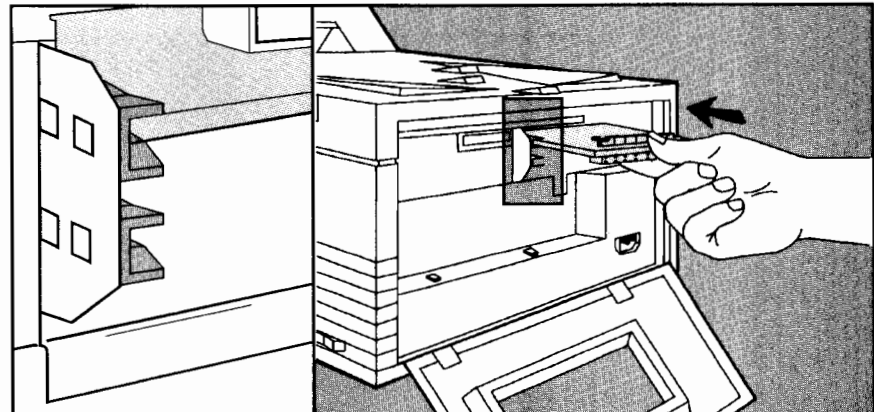

Figure F-5. Installing the First Board
8. To install the first board, remove the board from the anti-static packaging, holding it with green-tab-side up, and slide it into printer using the upper slot guide rails (see figure F-5).